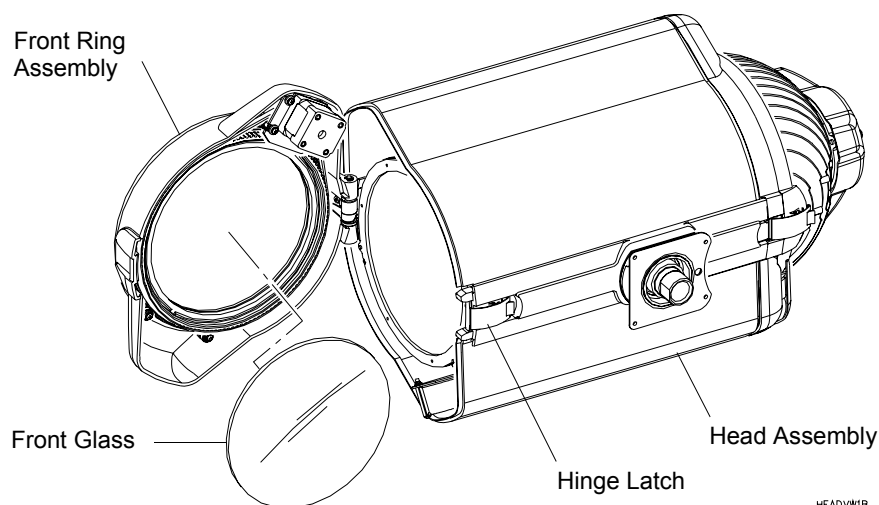

Figure 2-5: Removing Front Glass
Step 2. At front ring assembly, unlatch hinge and swing open. **Figure 2-5.**